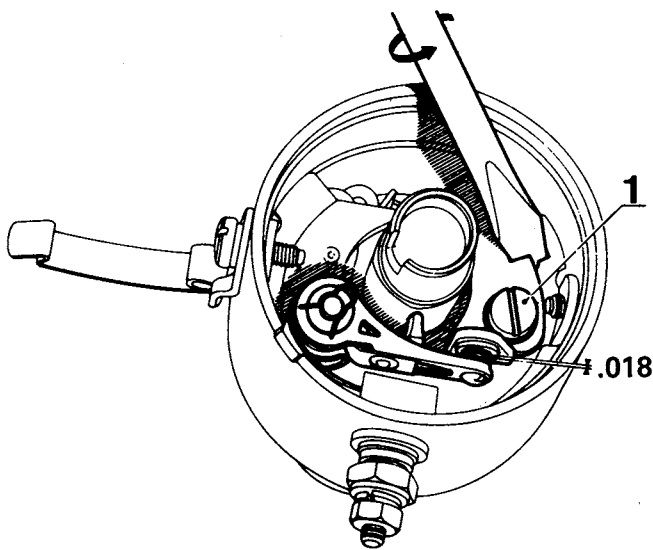

FIGURE 59. ADJUSTING DISTRIBUTOR
Loosen screw (1). Adjust the points gap by moving the fixed contacts with a screwdriver, as shown in the illustration. After adjusting, tighten screw (1) (Figure 59).